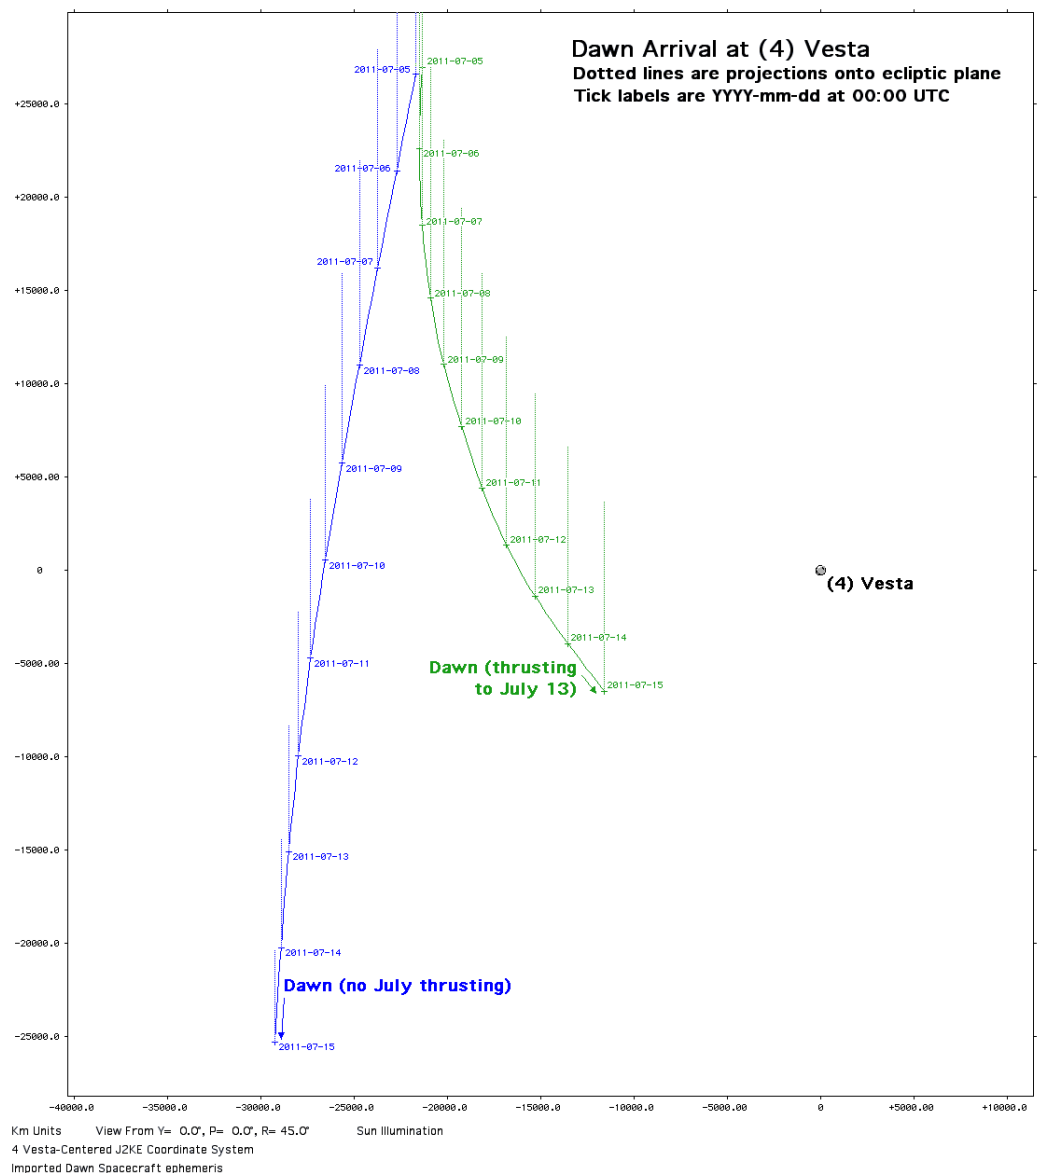

Figure 2. Dawn Trajectories Relative To (4) Vesta Assuming Early Thrust Termination.
The effect of Dawn thrusting from 30 June until 13 July 2011 is evident in Figure 2. During this interval, the only pause in thrusting was from 9 to 10 July, when additional Vesta imagery was acquired and a search for companions orbiting Vesta was conducted. No such companions have been reported, but analysis of this imagery was ongoing as of 18 July. Perspective in Fig-
13. Vesta's 530 km diameter, ranking it as second or third largest among asteroids behind (1) Ceres and possibly (2) Pallas, is shown to scale in Figure 2 with its north pole of rotation rendered to an accuracy of several degrees. The shaded area of Vesta is its night side.
scale are identical to Figure 2's. The single Figure 3 trajectory reflects nominal Dawn thrusting through Vesta orbit capture and into 23 July 2011 as posted by JPL on 18 July. Subsequent thrusting will further reduce Dawn's altitude above Vesta to 2700 km. Detailed science investigation of Vesta is expected to commence from this altitude in mid-August 2011.
Vesta's 530 km diameter, ranking it as second or third largest among asteroids behind (1) Ceres and possibly (2) Pallas, is shown to scale in Figure 2 with its north pole of rotation rendered to an accuracy of several degrees.